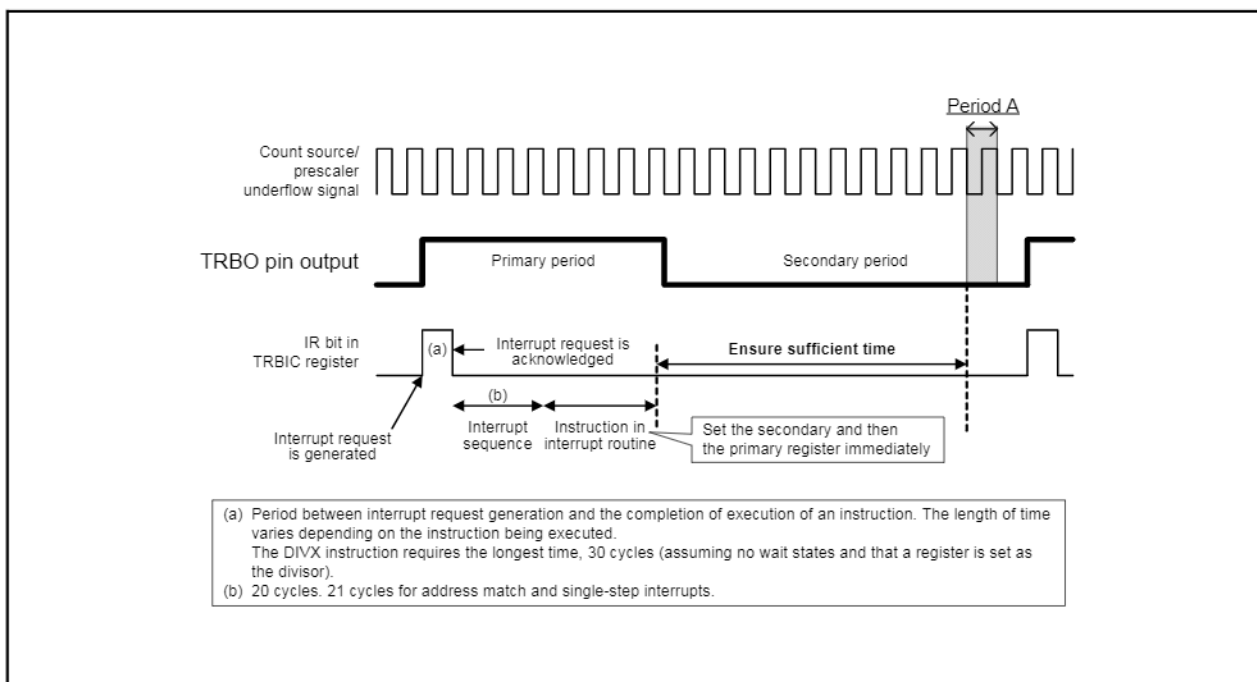

Figure 14.24 Workaround Example (a) When Timer RB interrupt is Used
- (1) To write to registers TRBPRE and TRBPR during count operation (TCSTF bit is set to 1), note the following points:
- (2) To change registers TRBPRE and TRBPR during count operation (TCSTF bit is set to 1), synchronize the TRBO output cycle using a timer RB interrupt, etc. This operation should be performed only once in the same output cycle. Also, make sure that writing to the TRBPR register does not occur during period A shown in Figures 14.24 and 14.25.
As shown in Figure 14.24, write to registers TRBSC and TRBPR in the timer RB interrupt routine. These write operations must be completed by the beginning of period A.